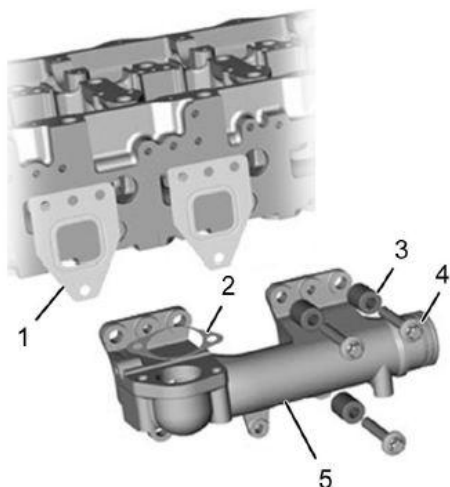

Figure 6: Rear Exhaust Manifold
13. Separate rear exhaust manifold (**Figure 6**, Item 5) section from middle exhaust manifold.